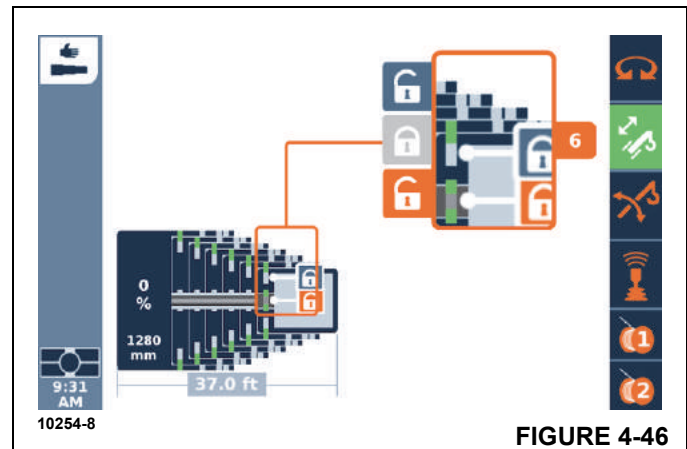

FIGURE 4-46
- The Manual Mode shows an expanded view of the telescoping cylinder pinning mechanism with the same unlock icons and a lock icon, as seen in Figure 4-46 (instead of the requested final boom configuration values for the Semi-auto Mode). When one of the unlock or lock icons becomes available to be selected (changes from the basic gray color to the focus color), then the operator can request the unlock command or the lock command. The top unlock icon is for the boom section unlocking, and at the proper time the lock icon would be used to again lock the boom section (the lock icon will become available as a command when the control system allows it). The bottom unlock icon is for the